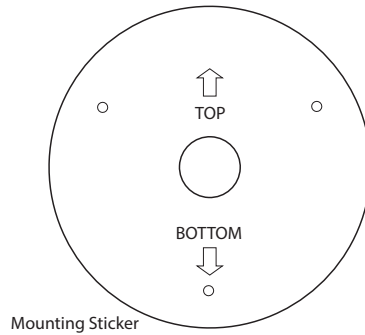

Fig. 3
3. Peel and place the junction box mounting sticker onto the mounting surface where the junction box will be mounted. See Fig. 3.